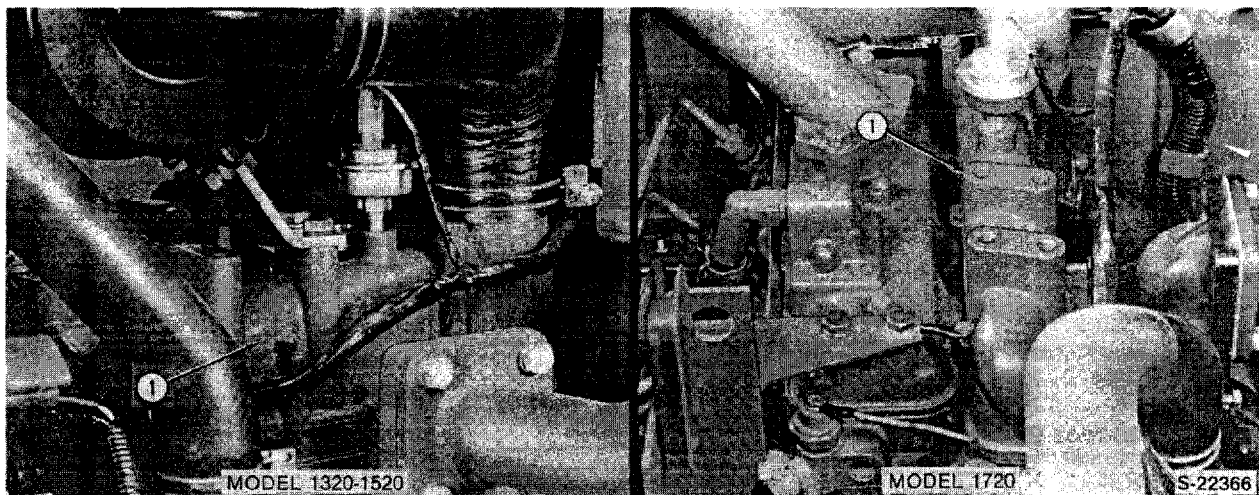

Figure 9
13. Remove the air inlet manifold assembly, Figure 9.